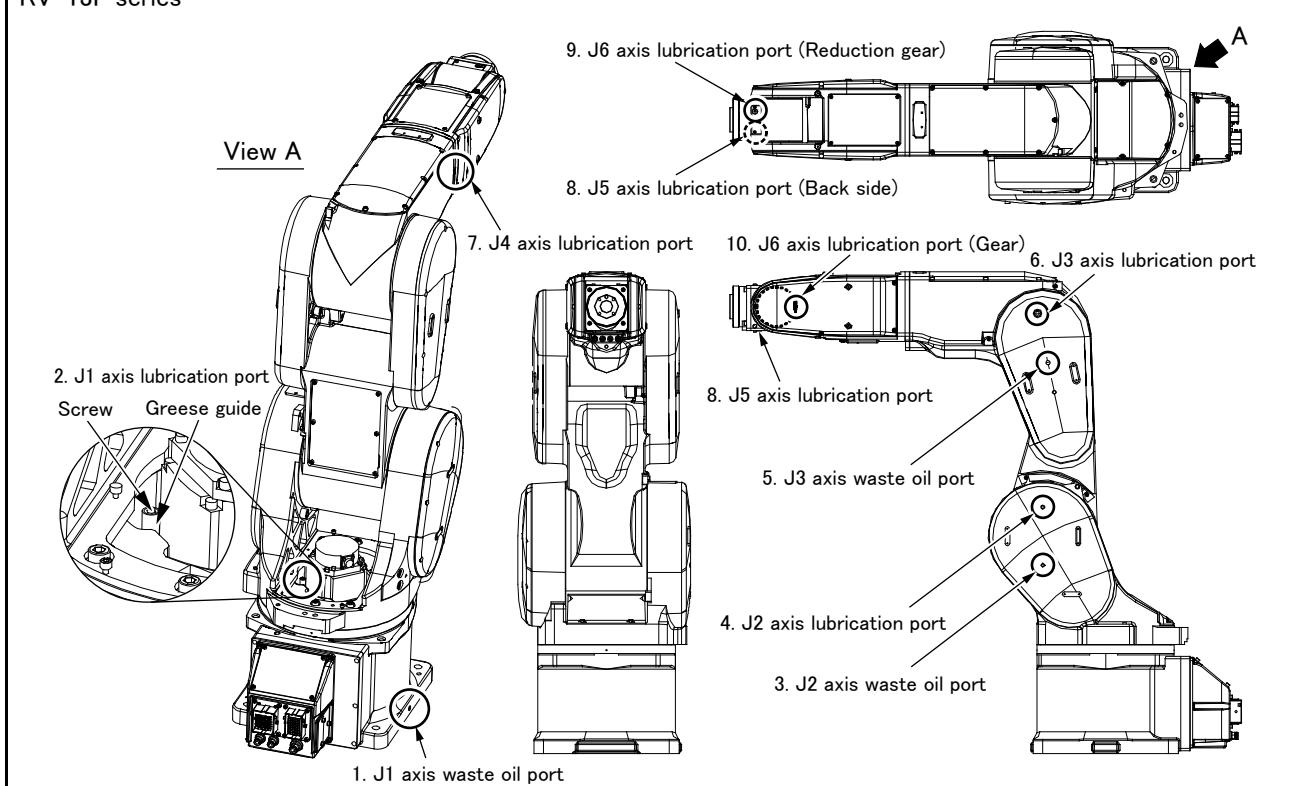

Fig.5-19 : Lubrication positions (RV-13F series)
The grease nipple position is shown in Fig. 5-18 (RV-4F/7F series) or Fig. 5-19 (RV-13F series). The lubrication specifications for each place are shown in Table 5-4. Refer to the Page 92, "5.3.2 Installing/removing the cover" for the method of removing and installing the cover.
- The numbers in the Table 5-4 correspond to the supply positions in Fig. 5-18 (RV-4F/7F series) or Fig. 5-19 (RV-13F series).
- 1) Set the robot to the posture shown in Fig. 5-18 (RV-4F/7F series) or Fig. 5-19 (RV-13F series).